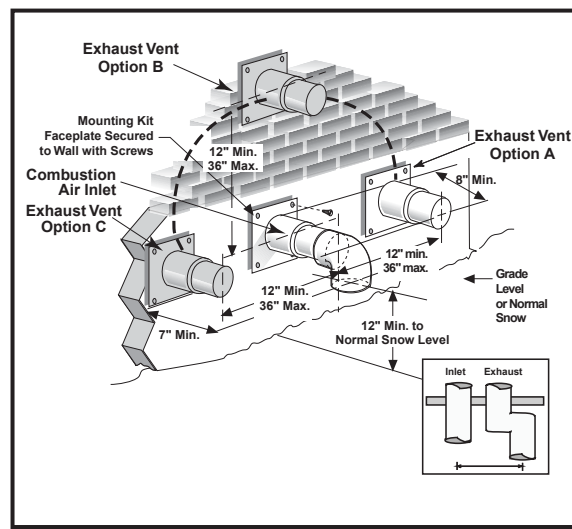

Figure 19. Exhaust and Combustion Air Pipe Clearances
Vent and combustion air intake terminations must be as shown in Figure 19 unless the concentric vent termination kit is used.
Ensure that the combustion air vent and the exhaust vent are configured as shown in Fig. 19. Improper vent termination can cause recirculation of the flue gases. This may result in furnace vibration. In severe cases, the furnace will cycle, due to the intermittent contact between the flame and the flame sensor. If you note these oscillations occurring, check the vent configuration. Make sure that the exhaust vent does not have a 90 degree termination.
4. Insure the combustion air inlet pipe has a 90 degree termination elbow, and is pointing downward as shown in Figures 19 & 20.